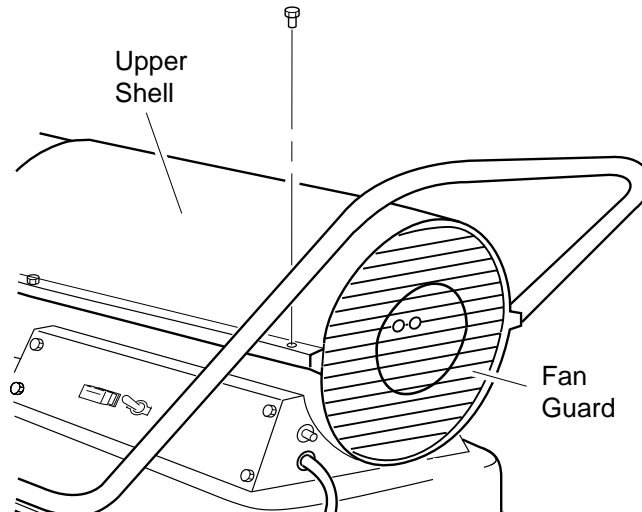
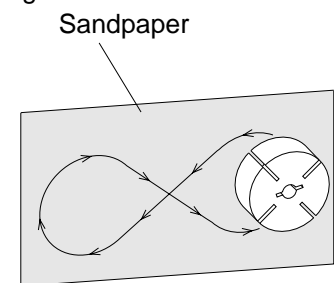

Figure 8 - Upper Shell Removal (REM J150)
Figure 22 - Sanding Rotor
14. Place fine grade sandpaper (600 grit) on flat surface. Sand rotor lightly in "figure 8" motion four times (see Figure 22).